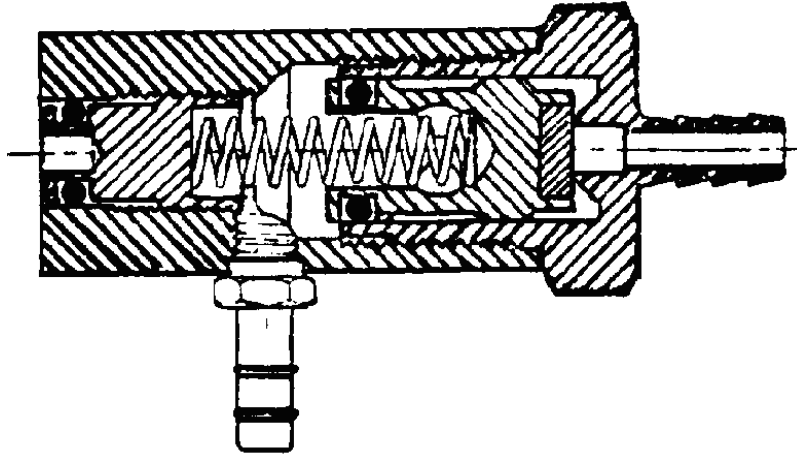

Figure 1-4. Flow-bypass valve.
(3) Flow-bypass valve. One outlet from the tee fitting is connected to the flow-bypass valve shown in figure 1-4 and is used in conjunction with the nebulizer control. Its function is to bypass gas flow around the nebulization control to the auxiliary jet socket. It also serves as a pressure governor to maintain calibrated flow to the breathing circuit. It consists of an adjustable orifice, a plunger, and a spring.